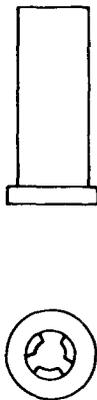

Fig. 1 — KS-20452, L1, Pin Jack
2.01 **KS-20452, L1:** The KS-20452, L1, jack (Fig. 1) is a miniature, pin-type jack with a hard-gold finish. The jack is intended for use in the D2 digital channel bank.